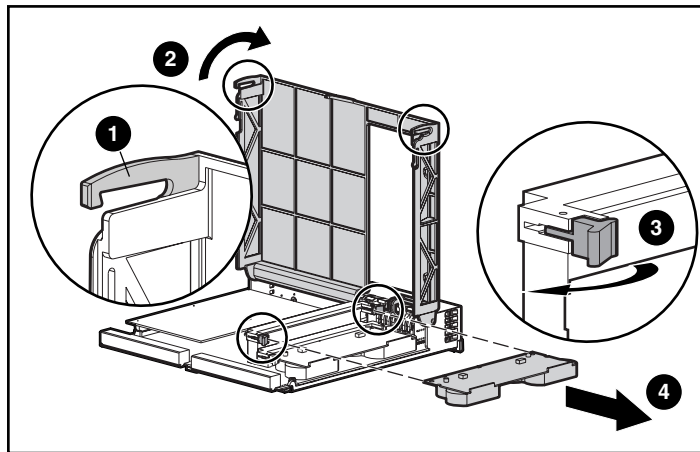

Figure 6: Removing the cache module
3. As illustrated in Figure 6, unlatch the controller cover clips **1** on the rear of the controller and then raise the cover **2**.
Note: The controller in Figure 6 has been rotated so the side and rear of the controller are visible.